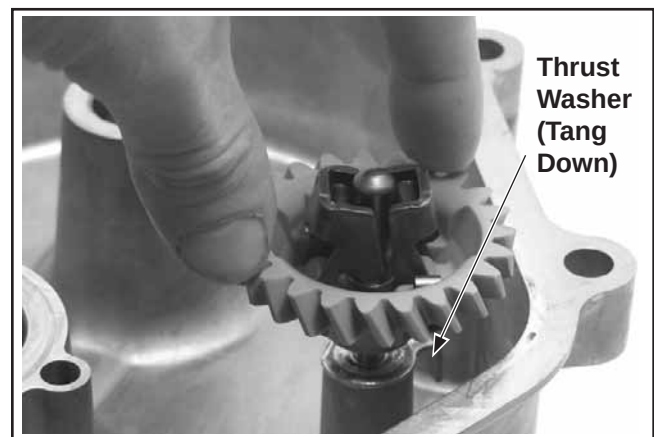

Figure 9-14. Installing Thrust Washer, Regulating Pin and Governor Gear Assembly.
2. Position the regulating pin within the governor gear/flyweights assembly and slide both onto governor shaft until assembly locks into place. See Figure 9-14.